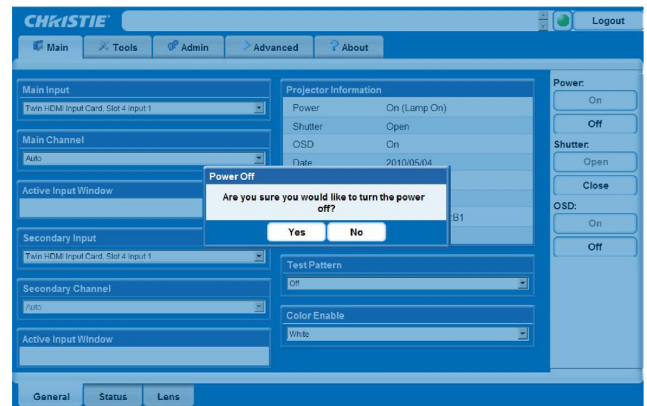

FIGURE 2-21 POWERING DOWN/WEB USER INTERFACE
1. From the **Main** Tab, Select **Power>OFF**. **NOTE:** A window will display for confirmation on powering down, see Figure 2-21.